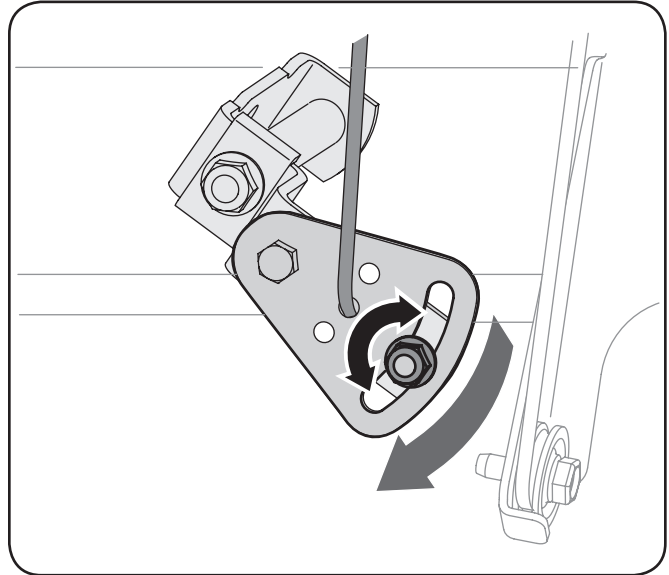

Figure 6-6
2. Loosen the hex nut on the shift cable index bracket. See Figure 6-6.